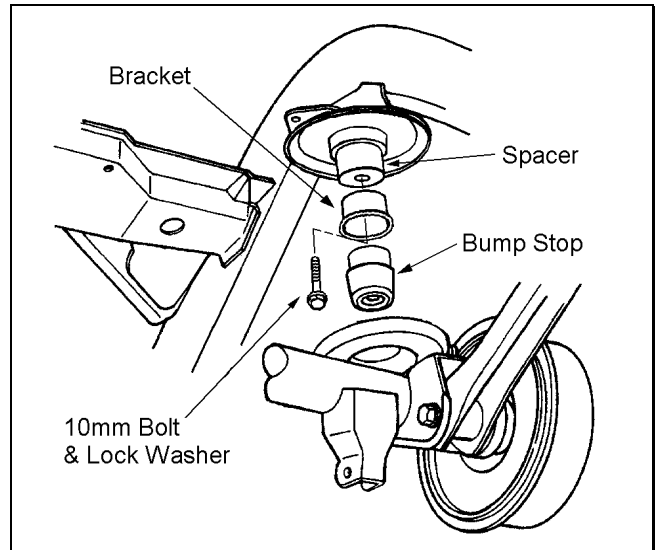

Figure 15
- 2)  Insert Rancho spacer 420027 and reinstall the bracket with the 10mm hardware from kit 860161. Insert the bump stop into the bump stop bracket. See figure 15.